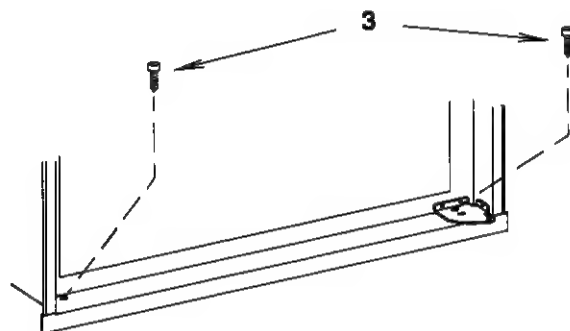

FIG. 4
2. Once the lower front strip is slipped under the hinge, the part is possible to swing into place as shown in fig. 4.
One screw through the hinge and into the floor. The second screw is installed on the opposite side through the lower front strip. (Fig. 4).